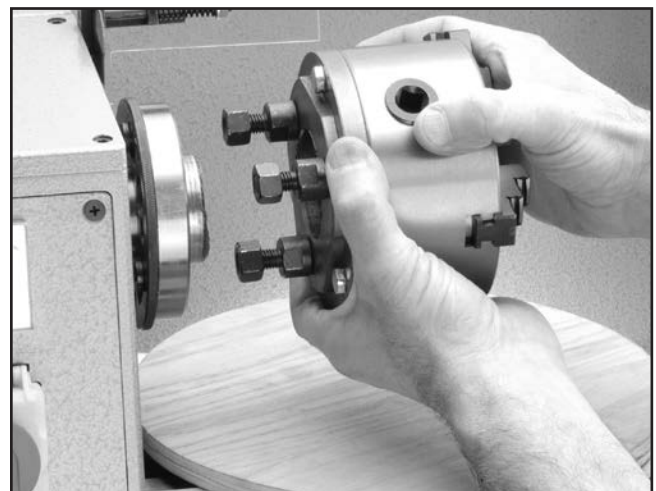

Figure 16. Removing lathe chuck.
7. Remove the chuck/faceplate from the spindle nose by pulling it out (**Figure 16**). *Note—the tolerances are tight, so you may need to wiggle the chuck/faceplate back-and-forth, rotate it 1/4 of a turn, wiggle it, rotate it and continue repeating this process until the chuck comes out. Never use a pry bar or other similar tool to force the chuck/faceplate out!*